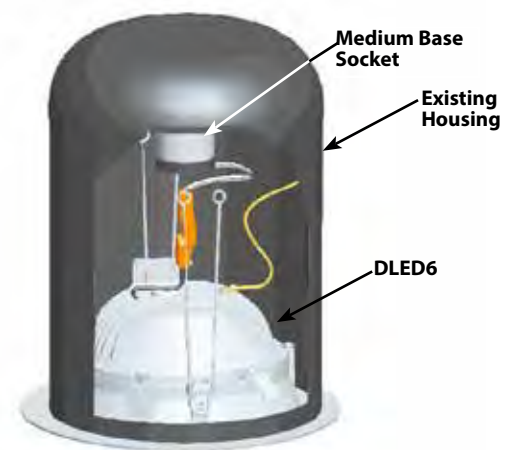

Fig.5
5. Carefully route all wires into the **Existing Housing** and push **DLED6** up flush to the ceiling surface. (Fig.5) Be careful not to pinch wires.